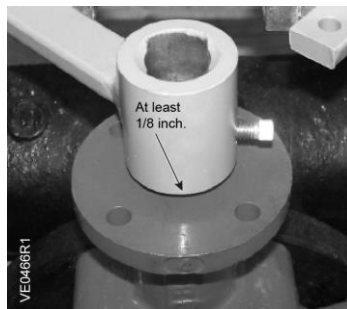

Figure 6. Valve Flange.
4. Tighten the setscrews on both lever arms. Leave a little space between the lever arm collar and the face of the valve flange so that the lever arm and valve flange do not wear on each other. See Figure 6.